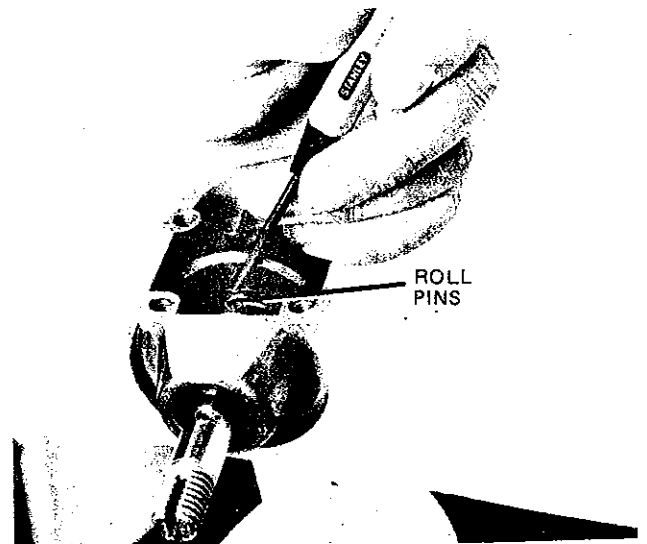

Figure 2. Remove roll pins.
On models using a water inlet tube (Figures 2 and 3) it may be necessary to disassemble the gear housing in order to remove the gear housing from the column.
### 3. DISASSEMBLE GEAR HOUSING [Figures 2 and 3]
- H. Using a 1/8-inch pin punch, drive the roll pins out of the bevel gear (Figure 2).
- C. Replace pilot bushing in gear housing (Figure 2).